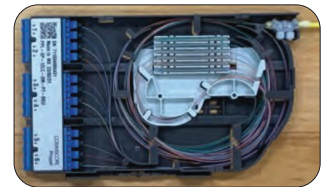

Figure 17
17. Insert spool into base and ensure all fibers are under retaining fingers. **(Figure 17)**